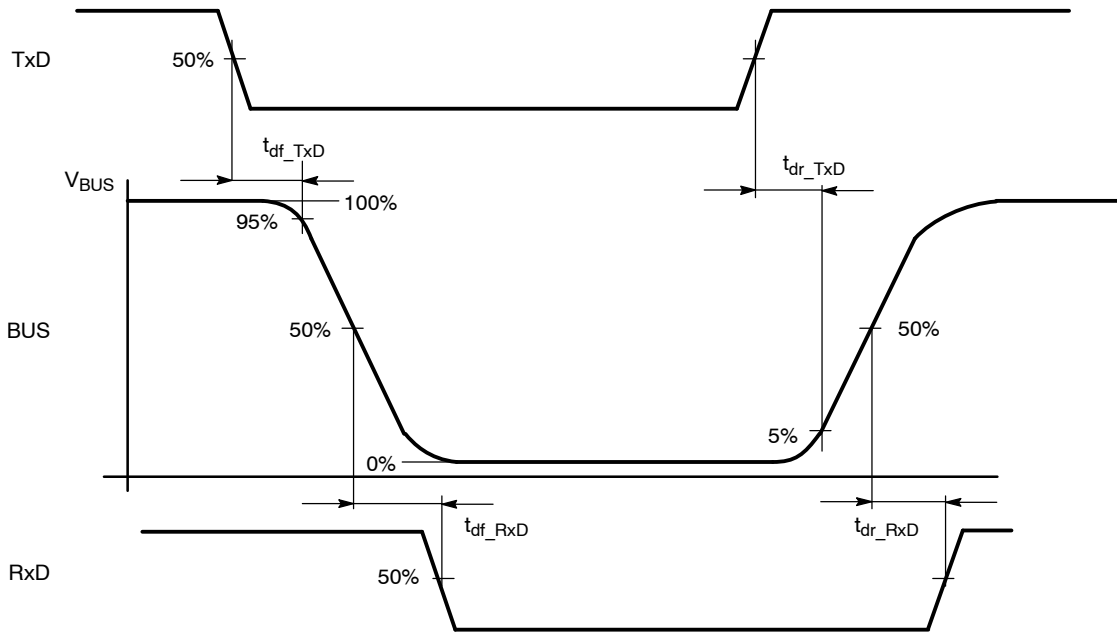

Figure 2. Timing Diagram for Propagation Delay According to LIN 1.3 and 2.0
10. See Figures 2 and 3, Timing Diagrams.